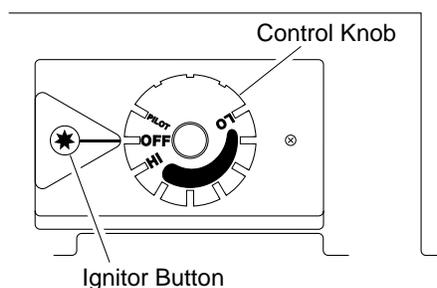

Figure 28 - Control Knob In The OFF Position
- Wait five (5) minutes to clear out any gas. Then smell for gas, including near the floor. If you smell gas, STOP! Follow "B" in the safety information, column 1. If you don't smell gas, go to the next step.
- Turn control knob counterclockwise to the PILOT position. Press in control knob for five (5) seconds (see Figure 28).